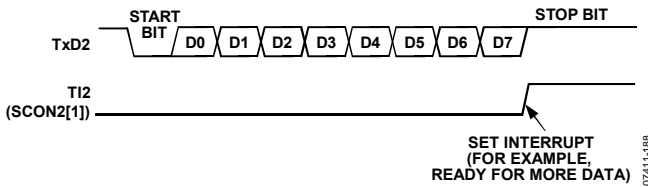

Figure 105. 8-Bit Variable Baud Rate
Transmission is initiated by a write to the Serial Port 2 SFR (SBUF2, Address 0xEB). Next, a stop bit (1) is loaded into the ninth bit position of the serial port shift register. The data is output bit by bit until the stop bit appears on the TxD2 pin and the Serial Port 2 transmit interrupt flag, TI2 (Bit 1 of the SCON2 SFR) is automatically set, as shown in Figure 105.